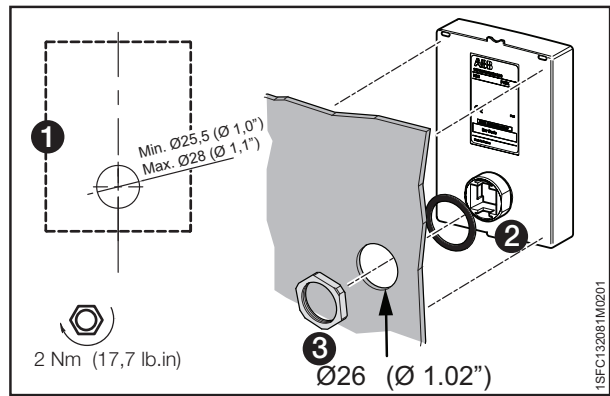

Figure 4.9
- To remove the movable HMI from the Softstarter, loosen the plastic latch below the movable HMI, see **1** and **2** in **Figure 4.9**.
- Drill a hole where to attach the movable HMI. Maximum dimension of the hole is $\varnothing 26$ ($\varnothing 1.02$ "), see **1** in **Figure 4.9**. Put the rubber packing around the threaded network connector on the movable HMI, see **2** in **Figure 4.9**. Push the threaded network connector through the drilled hole. See **3** in **Figure 4.9**. Fasten the plastic screw-nut on the threaded network connector, with 2 Nm (17.7 lb/in).